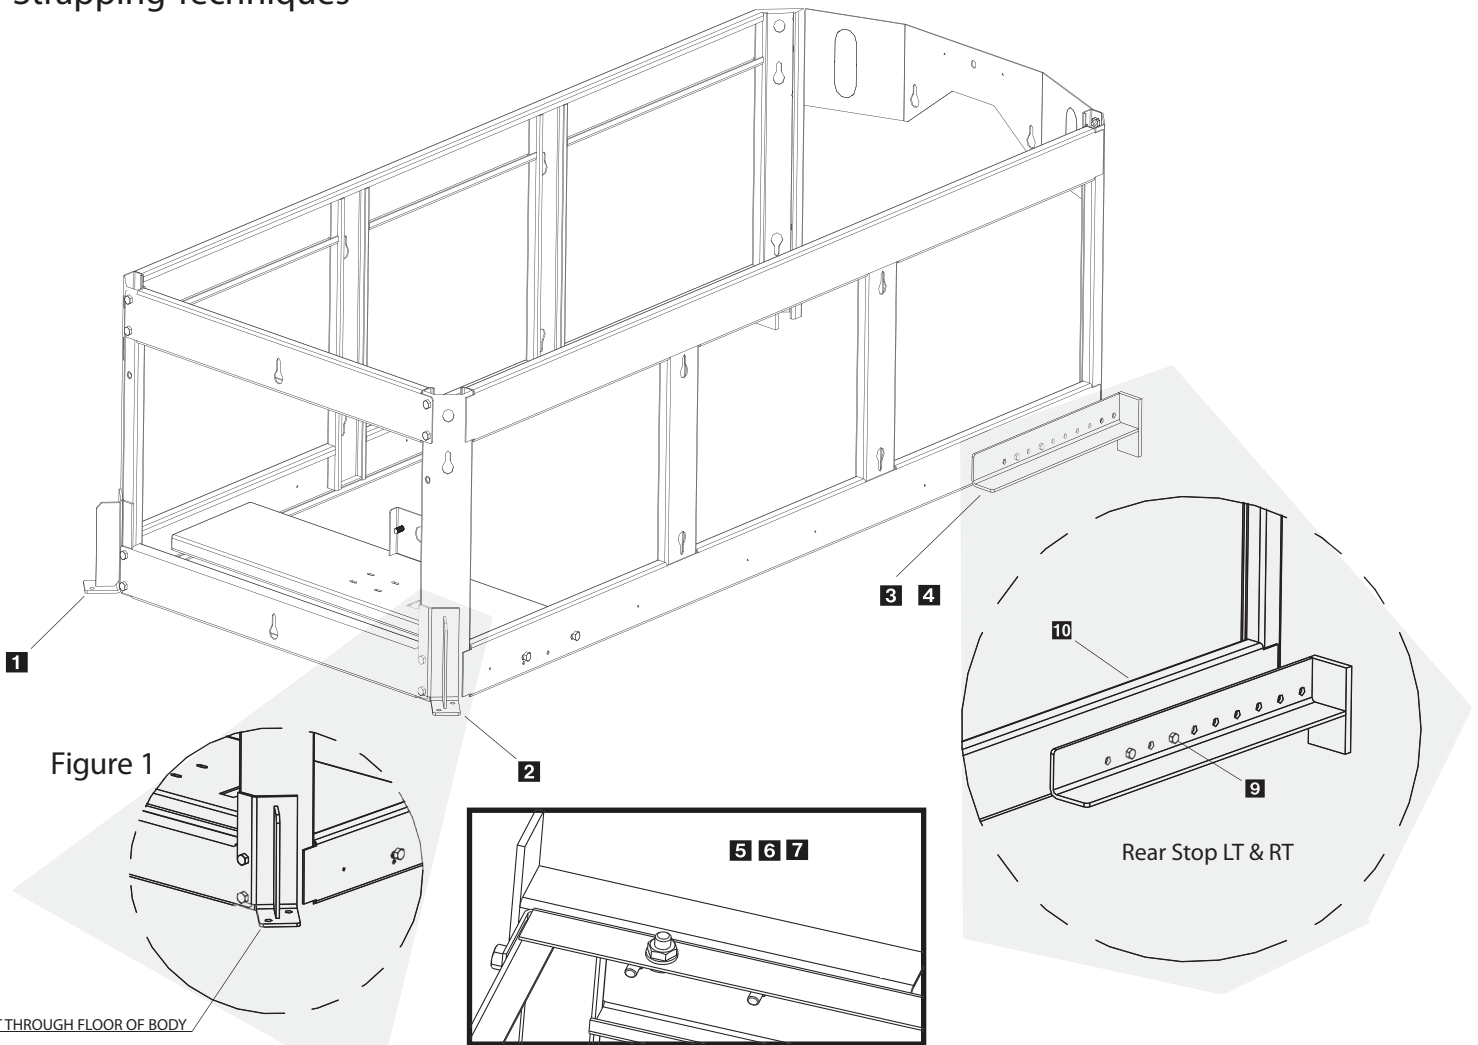

Figure 1
- Step 1: Secure long leveling rod D-5741 to spinner enclosure through bottom hole in bracket with hair pin clip through hole in pin (see fig 1)